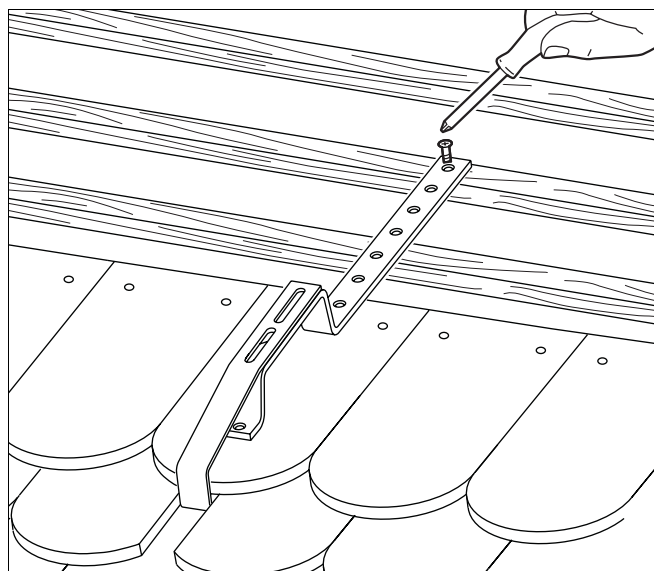

Fig. 28 Installing special roof hooks
- Install the special roof hooks (Fig. 28) with the included screws.